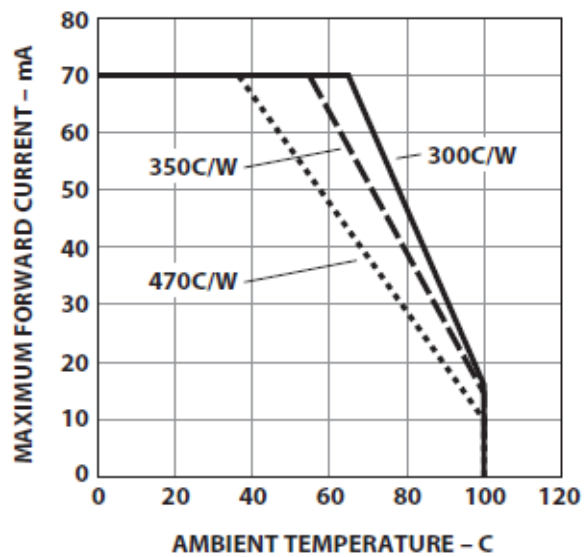

Figure 4. Maximum forward current vs. ambient temperature. Derated based on $T_{J\text{MAX}} = 110^{\circ}\text{C}$
- Derate linearly as shown in Figure 4.